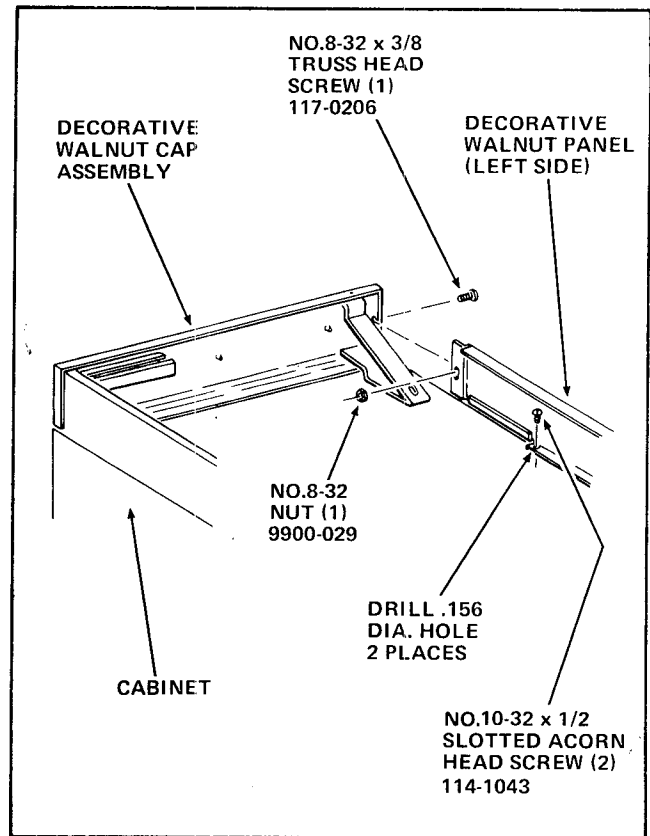

FIGURE 8
1. Place the Side Panel on the top of the Merchandiser with the lip with the elongated hole in it, behind the Decorative Walnut Cap. Align the hole in the lip with the hole in the Cap. See Figure 8.